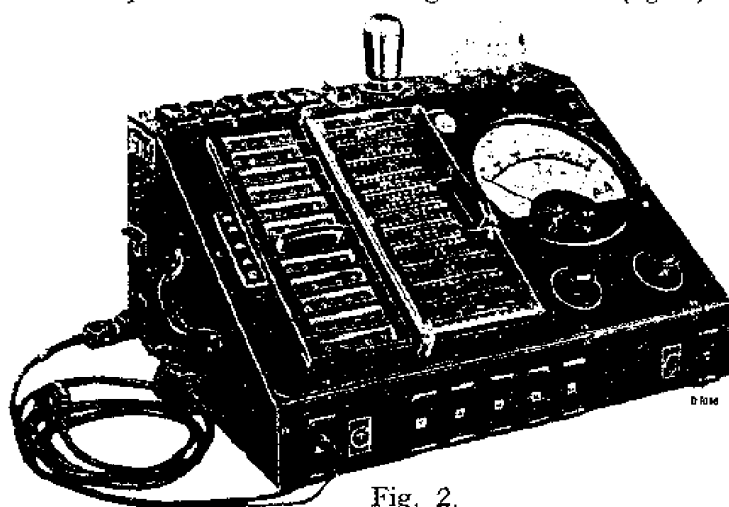

Fig. 2.
3. An output indicator, i.e., triode voltmeter connected in parallel with the loudspeaker. The output indicator in the testing apparatus, Type 4256 (fig. 2) is, of course, quite suitable. An adaptation box for connecting meters (GN.2295) can also be supplied.
Fault finding will be considerably facilitated by the use of efficient testing apparatus. Attention is drawn to Philips' Universal Measuring Test Board (fig. 2)